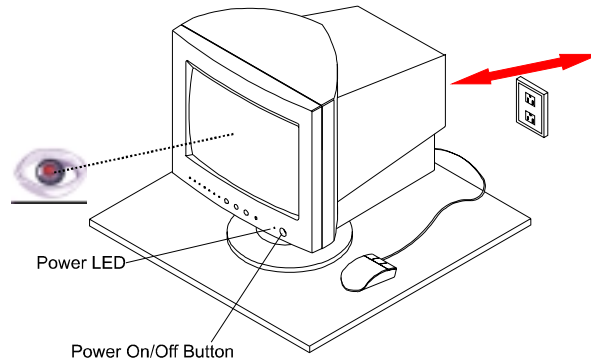

Figure 4: ON/OFF Power Switch
- ◆ Locate the ON/OFF power switch. See Figure 4.